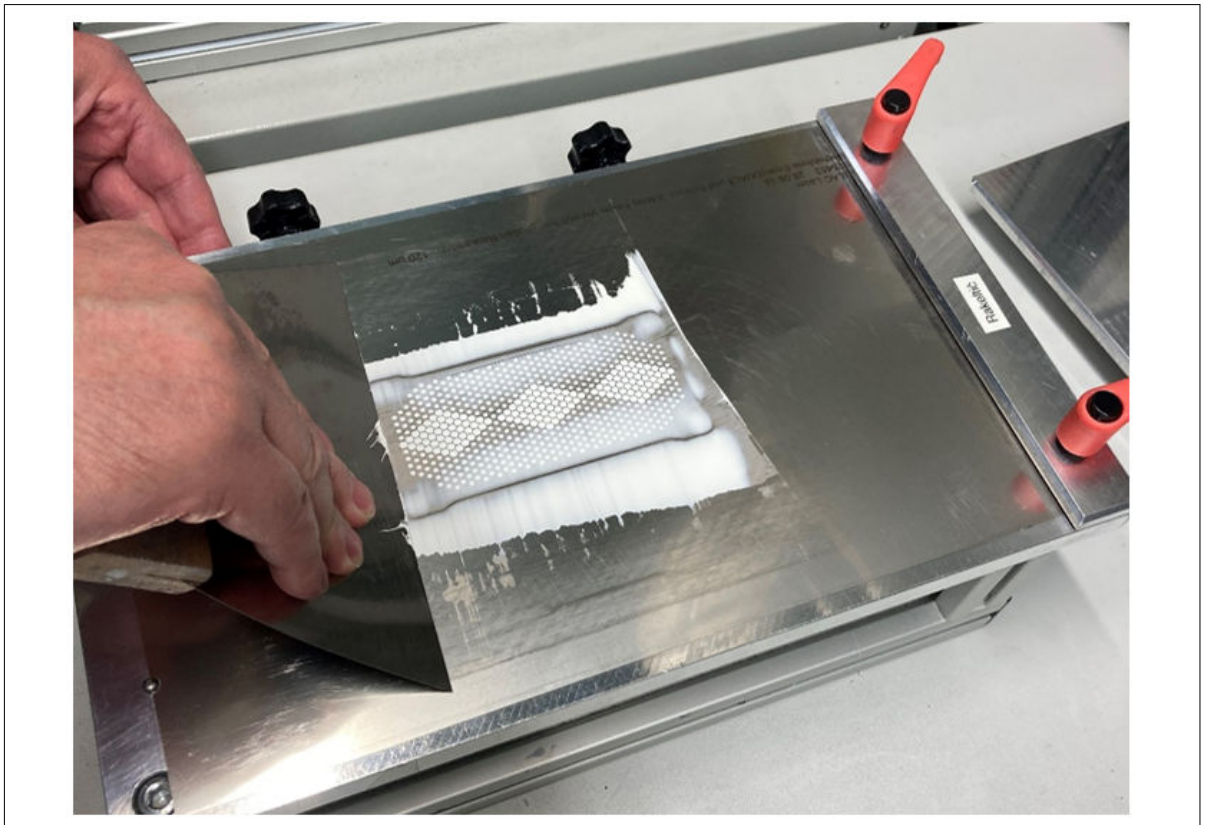

Figure 5 Paste spreading
3. Apply the paste into the holes of the template with a putty knife. Figure 5 shows an example of this procedure.